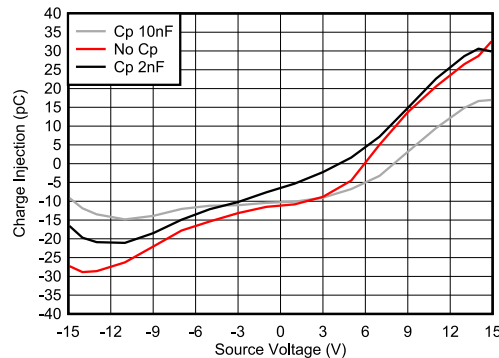

图 8-3. Charge Injection Compensation
The TMUX6219-Q1 contains specialized architecture to reduce charge injection on the source (S_x). To further reduce charge injection in a sensitive application, a compensation capacitor (C_p) can be added on the drain (D). This will ensure that excess charge from the switch transition will be pushed into the compensation capacitor on the drain (D) instead of the source (S_x). As a general rule of thumb, C_p should be 20× larger than the equivalent load capacitance on the source (S_x). 图 8-3 shows charge injection variation with source voltage with different compensation capacitors on the Drain side.